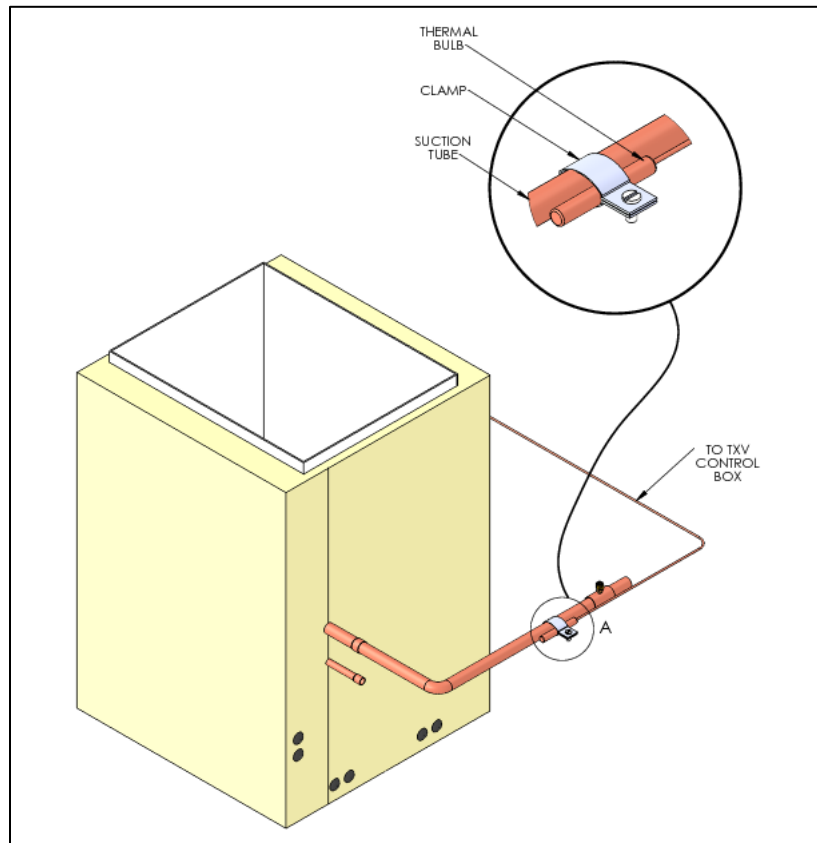

Figure 11. Clamping the Thermal Bulb
Step 4: Clamp the thermal bulb firmly against the **clean suction tube** extension and parallel to it, as shown in Figure 11.